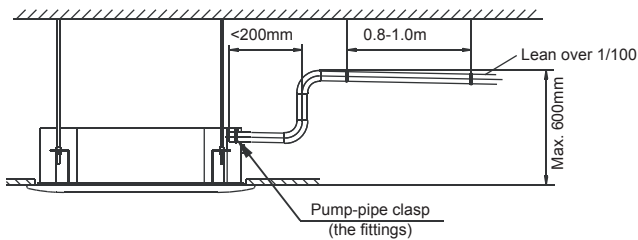

Fig. 6-2
7) In case the drainpipe outlet is higher than pumping connective pipe of the main body, the drainpipe must be arranged upwards vertically by using connective assembly of the water outlet for vertical bending, and the height of the drainpipe shall set to the defrosting pan surface no more than 1000mm (four-way cassette) or 600mm (slim four-way cassette), otherwise, too much backflow while shutdown would leads to overflow (Refer to Fig.6-2).